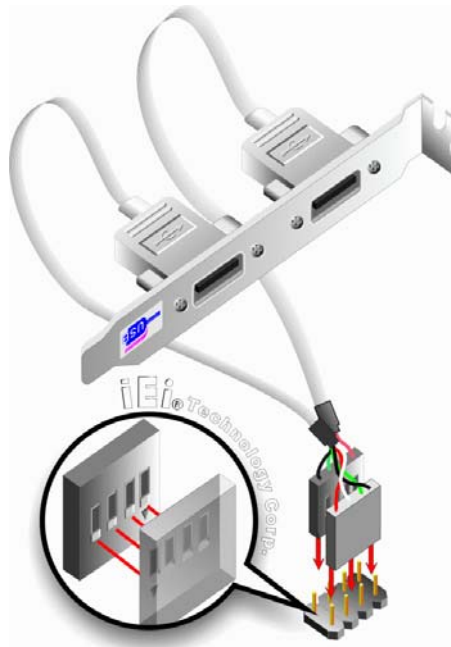

Figure 4-11: Dual USB Cable Connection
Step 7: **Insert the cable connectors** Once the cable connectors are properly aligned with the USB connectors on the WSB-G41A, connect the cable connectors to the on-board connectors. See **Figure 4-11**.